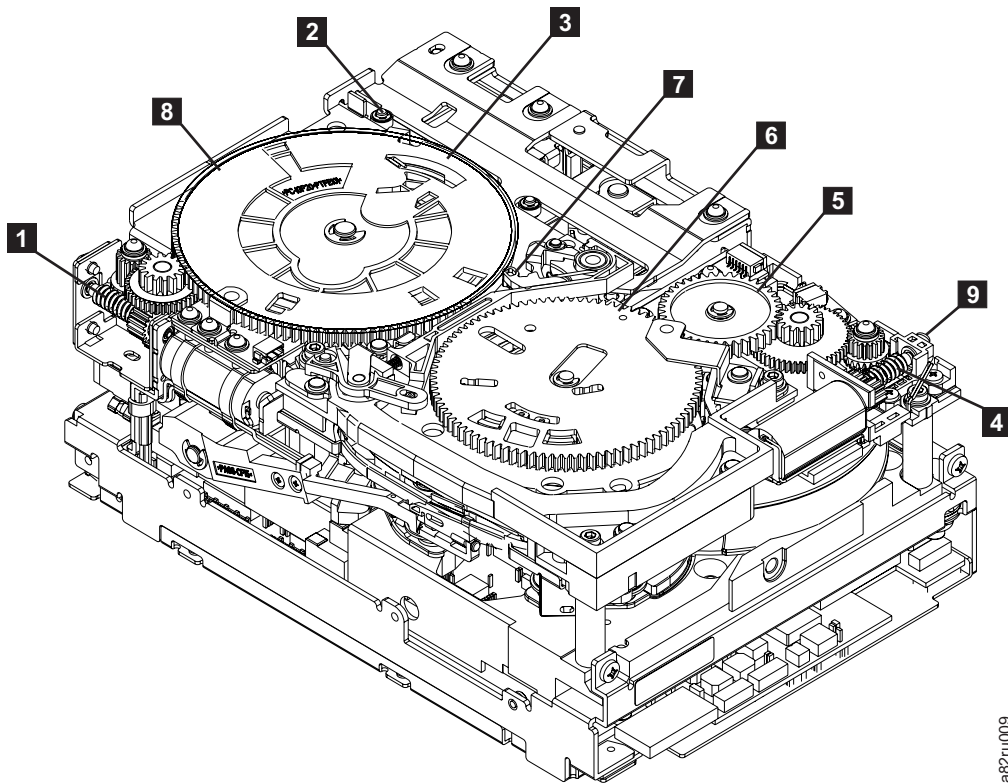

Figure 8-123. Drive with cover removed to reveal gear train
3. Locate the threader motor worm gear (**4** in Figure 8-123) the rear of the drive. You can either:
- a. Use your finger to rotate the threader motor worm gear and slowly rotate the threader mechanism gear (**6** in Figure 8-123) clockwise; or
- b. Use a #1 flathead screwdriver to turn the threader worm gear (**9** in Figure 8-123) clockwise.
This rotates the threader motor worm gear (**6** in Figure 8-123 on page 8-116) clockwise, drawing the tape leader block assembly (LBA) into the cartridge.
4. As the LBA is secured in the cartridge, you should hear the LBA retention spring clips click into place. If you do not hear the click, continue rolling until the threader motor worm gear (**4** in Figure 8-123 on page 8-116) stops. The LBA is in the correct position.
- a. Loader mechanism gear (**8** in Figure 8-123 on page 8-116) nearest the front of the drive that actuates the cartridge loader mechanism
- b. Position of the rotator stub (**3** in Figure 8-123 on page 8-116).
- c. Front loader motor worm gear (**8** in Figure 8-123 on page 8-116). Rotating this gear allows the loader mechanism gear (**1** in Figure 8-123 on page 8-116) to turn.
6. Rotate the loader motor worm gear (**1** in Figure 8-123 on page 8-116) to turn the loader mechanism gear (**6** in Figure 8-123 on page 8-116) counterclockwise. Continue turning until the rotator stub (**3** in Figure 8-123 on page 8-116) loses contact with the lever (**7** in Figure 8-123 on page 8-116). This releases the LBA leader pin.
7. Rotate the threader motor worm gear (**4** in Figure 8-123 on page 8-116) to turn the threader mechanism gear (**6** in Figure 8-123 on page 8-116) counterclockwise. This moves the LBA out of the cartridge and past the read/write head. Stop this rotation when the LBA is near the tape guide roller
8. Continue rotating the loader motor worm gear (**1** in Figure 8-123 on page 8-116) until the rotate stub (**3** in Figure 8-123 on page 8-116) is positioned as shown. Notice that the rotator stub (**3** in Figure 8-123 on page 8-116) is nearly aligned with the cartridge loader tray guide bearing (**2** in Figure 8-123 on page 8-116).